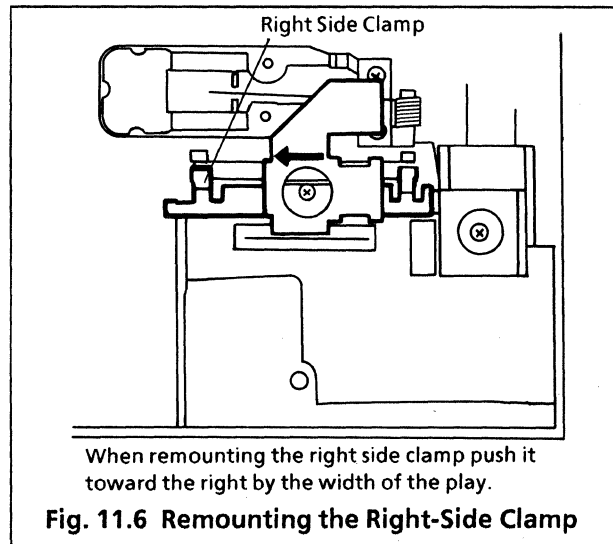

Fig. 11.6 Remounting the Right-Side Clamp
- (10) Remount them following the reverse procedure of the above steps (1) to (9).
When remounting the right-side clamp in step (5), remount it while pushing it in the arrow direction shown in figure 11-6. When remounting the right-side left-side clamps, replace them with new ones.